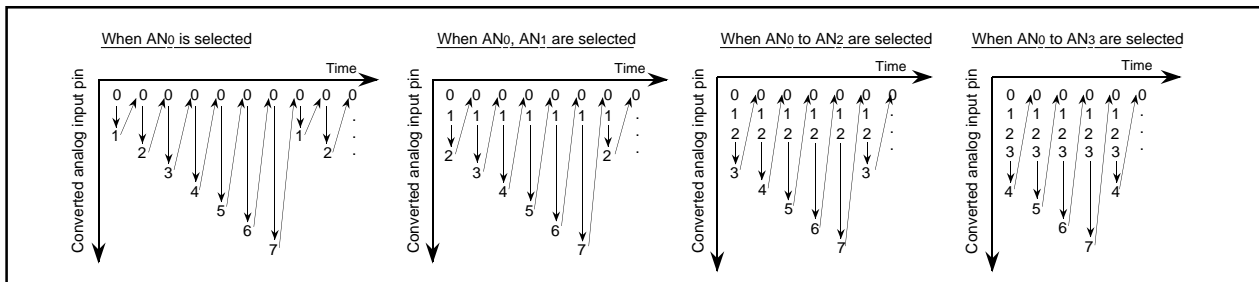
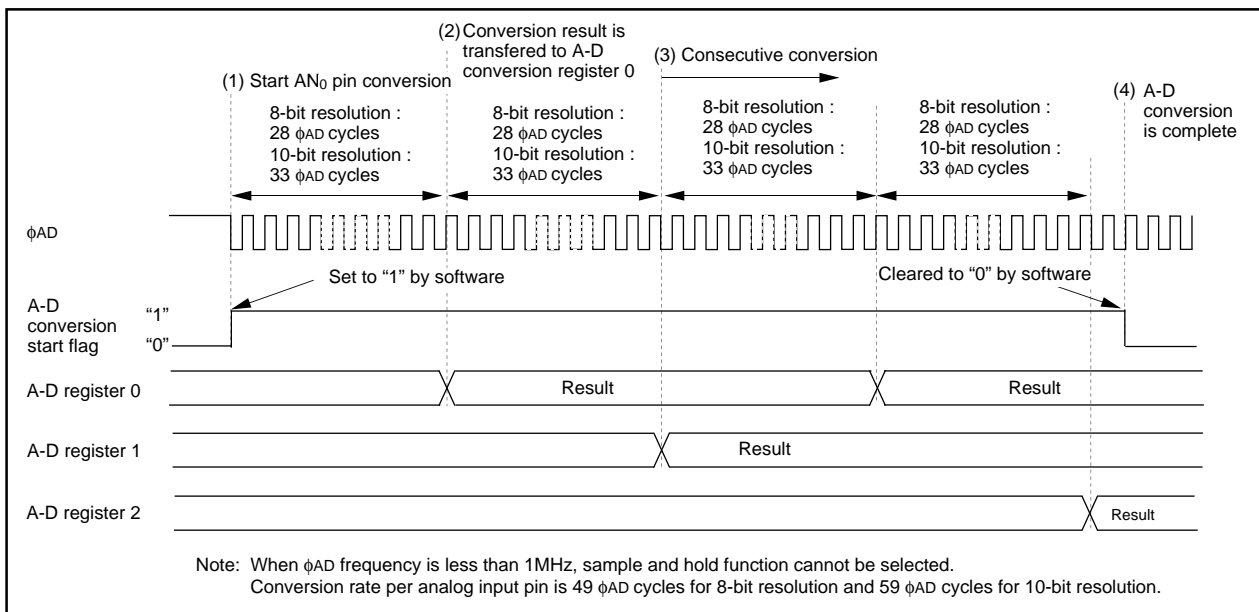
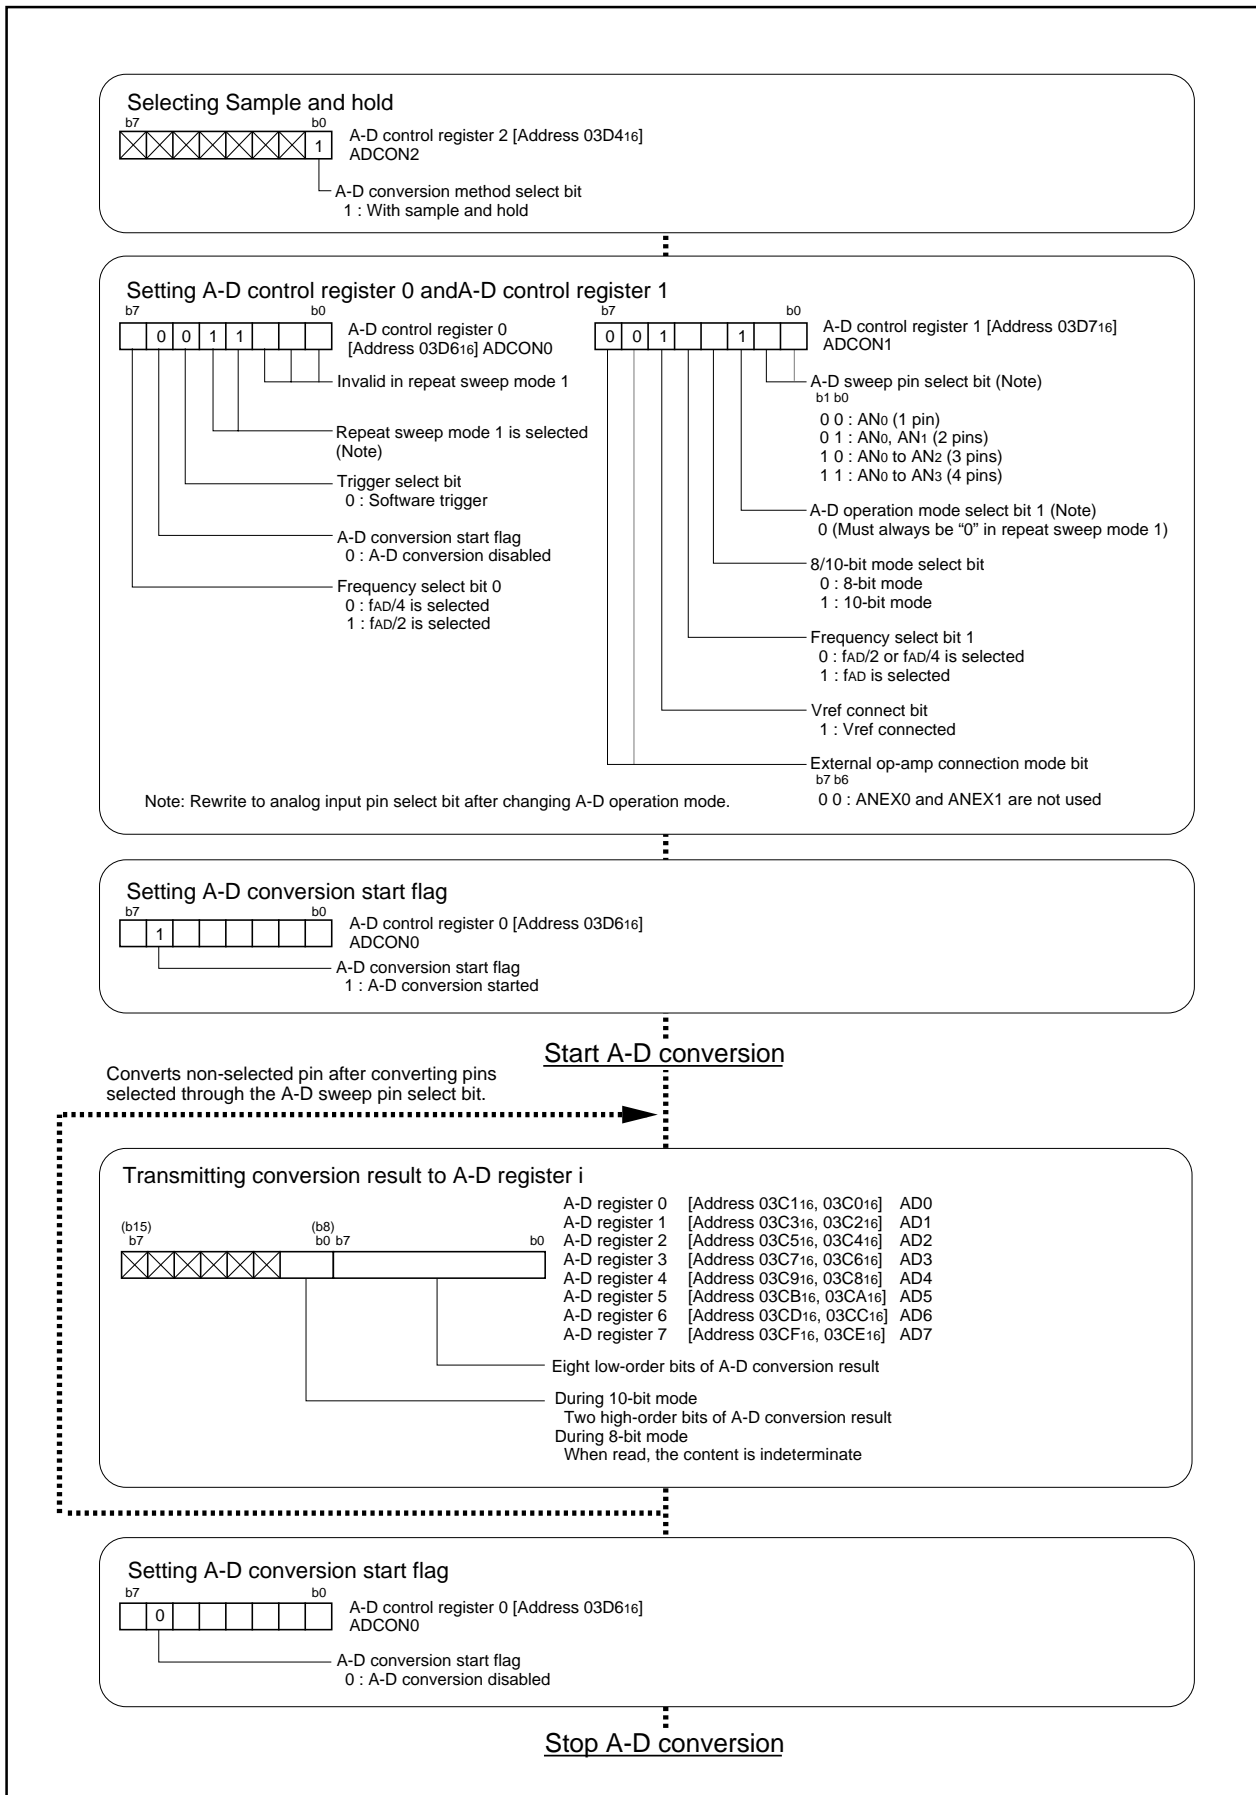

Figure 2.7.19. AN_i pin's sweep sequence in repeat sweep mode
Figure 2.7.20. Operation timing of repeat sweep 1 mode
Figure 2.7.21. Set-up procedure of repeat sweep 1 mode
In repeat sweep 1 mode, choose functions from those listed in Table 2.7.9. Operations of the circled items are described below. Figure 2.7.19 shows AN_i pin's sweep sequence, Figure 2.7.20 shows timing chart, and Figure 2.7.21 shows the set-up procedure.
- (1) Setting the A-D conversion start flag to "1" causes the A-D converter to start the conversion on voltage input to the AN₀ pin.
- (2) After the A-D conversion on voltage input to the AN₀ pin is completed, the content of the successive comparison register (conversion result) is transmitted to A-D register 0.
- (3) Every time the A-D converter carries out A-D conversion on a selected analog input pin, the A-D converter carries out A-D conversion on only one unselected pin, and then the A-D converter carries out A-D conversion from the AN₀ pin again. (See Figure 2.7.19.) The conversion result is transmitted to A-D register *i* every time conversion on a pin is completed. The A-D conversion interrupt request bit does not go to "1".
- (4) The A-D converter continues operating until software goes the A-D conversion start flag to "0".